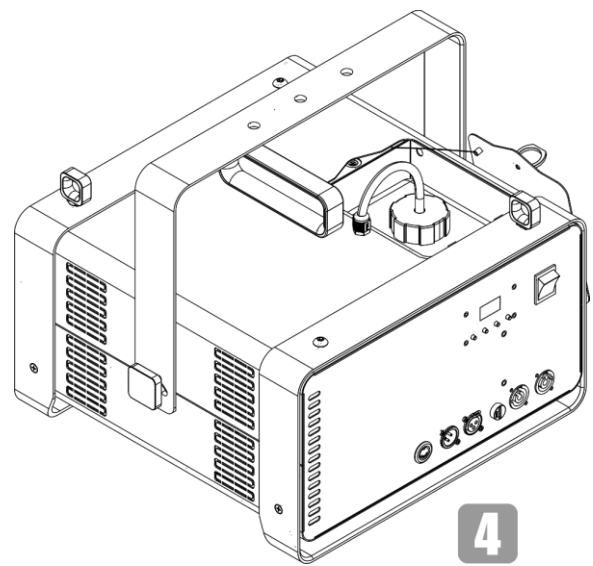

Fig. 24
- 04) Place the service lid next to the device, as shown in Fig. 24.